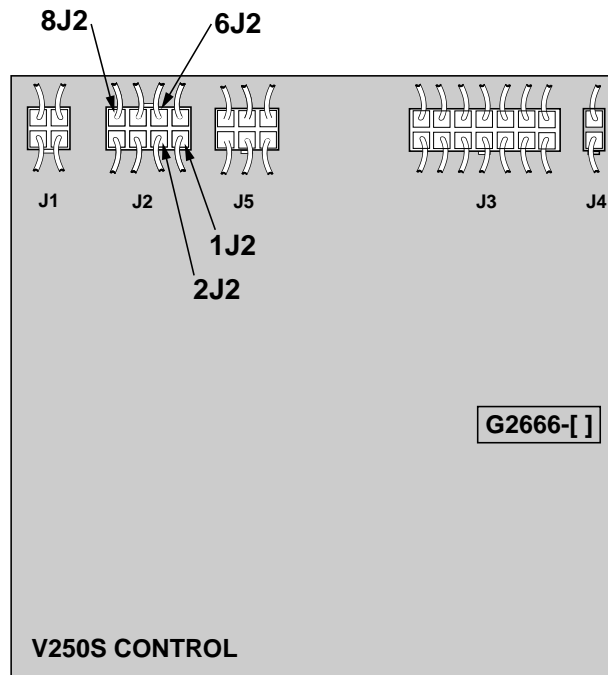

Figure F.10 Control Board Plug J2 Test Points
3. Locate and familiarize yourself with the leads and pin locations in plug J2 on the control board and also plug J6 on the power board. See Figures F.10. and F.11.